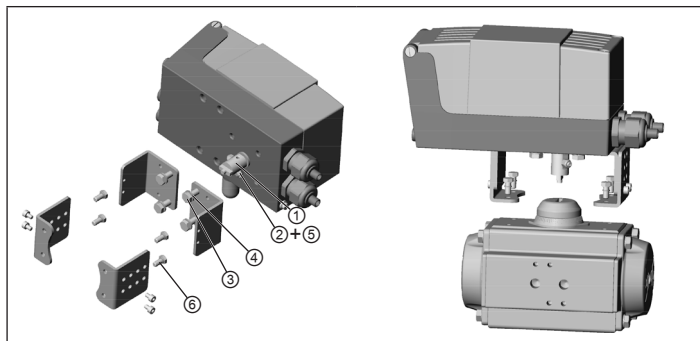

Fig. 18: Attaching the assembly bridge, mounting the SideControl on the rotary actuator
- Attach the assembly bridge to the SideControl using the 4 hexagon bolts ③ and the spring lock washers ④ (see “Fig. 18”).
- Place the SideControl with the assembly bridge on the rotary actuator and attach it using 4 hexagon bolts ⑥ (see “Fig. 18”).